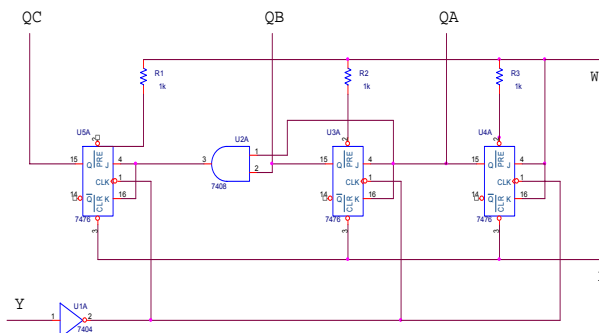

Fig 10-1
Step 2: Connect point W Fig. 10-1 to +5V, point X to Digital Inputs 0 and point Y to Data Switches "1". Next connect point Q_C to 8 Bit LED Display's "0" position, point Q_B to "1" position Q_A to "2" position.